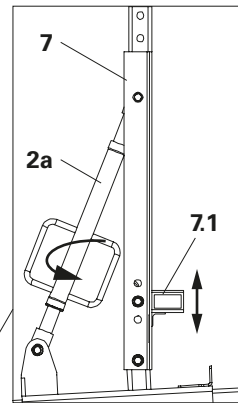
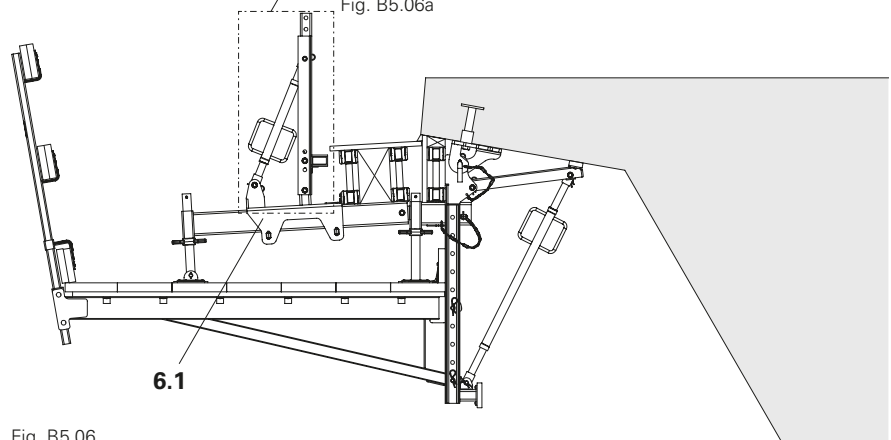

Fig. B5.06a
Fig. B5.06
3. Insert beam support (**7.1**) in the corresponding position. (Fig. B5.06 + Fig. B5.06a)